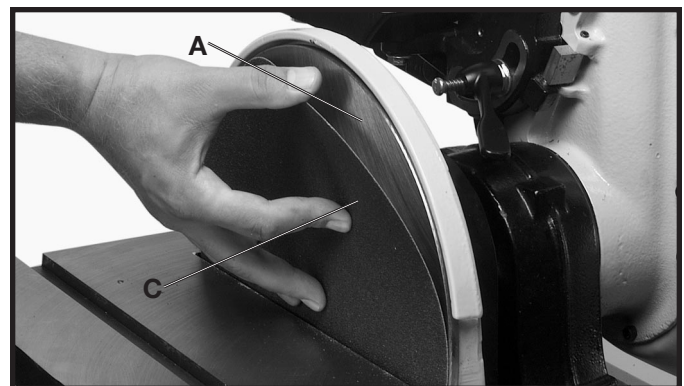

Fig. 9
3. Manually turn the disc assembly (A) Fig. 9, and remove the paper backing from the abrasive disc (C), and firmly press onto face of disc (A).
**⚠ WARNING** MAKE CERTAIN THE ABRASIVE DISC (C), IS SECURELY IN POSITION BEFORE APPLYING POWER TO THE MACHINE.